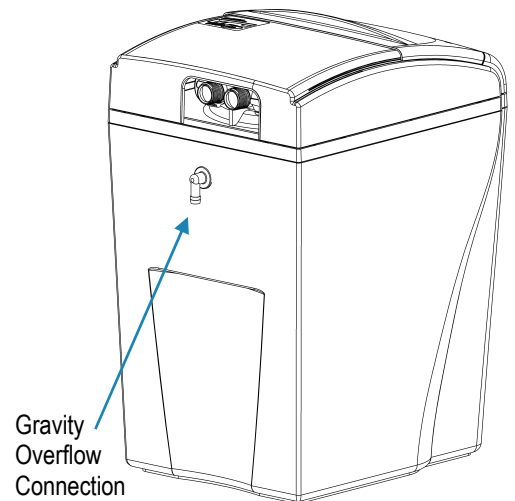

Figure 5: Gravity Overflow Connection
- A. Attach the overflow connection and check that it is in the down position. (See Figure 5.)